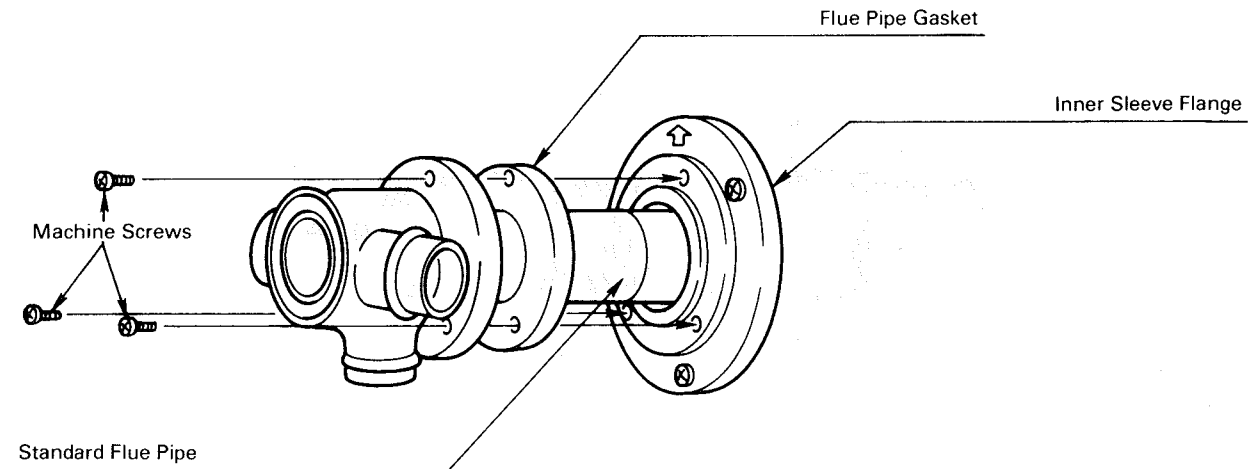

Fig. 9
6. a. From inside the room, insert the standard flue pipe with gasket attached through the wall sleeve. Secure the standard flue pipe to the inner sleeve flange with the three machine screws provided with the heater (See Fig. 9).